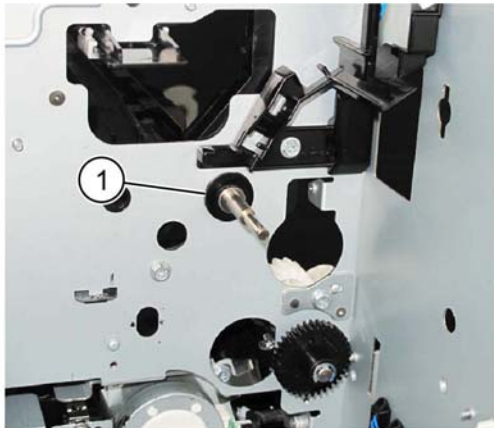

Figure 3 Rear bearing removal
10. Remove the rear bearing, Figure 3.